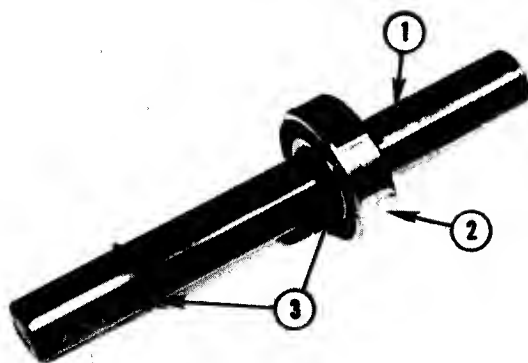

FIG. 10.14--INPUT SHAFT AND BEARING
19. Install retaining rings and one bearing on Input shaft, Fig. 10.14.